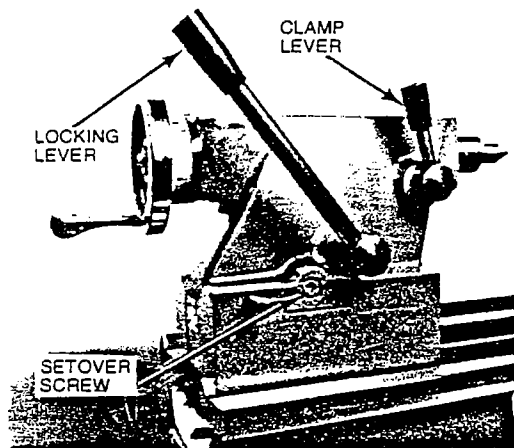

FIGURE 30
2. Loosen and adjust the two setover screws (Figure 30).
If the tailstock quill center is out of line with the lathe center line (at end of tailstock), adjust front and back setover screws until quill is aligned (Figure 30).